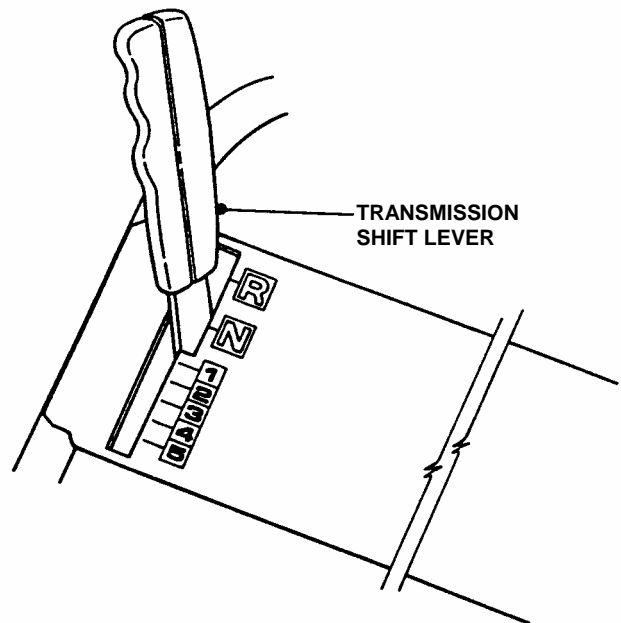

FIGURE 3.3
3. Place Transmission Shift Lever in **NEUTRAL(N)** position. See Figure 3.3.
9. Place Transmission Shift Lever in No. 1 position (first gear). See Figure 3.3.